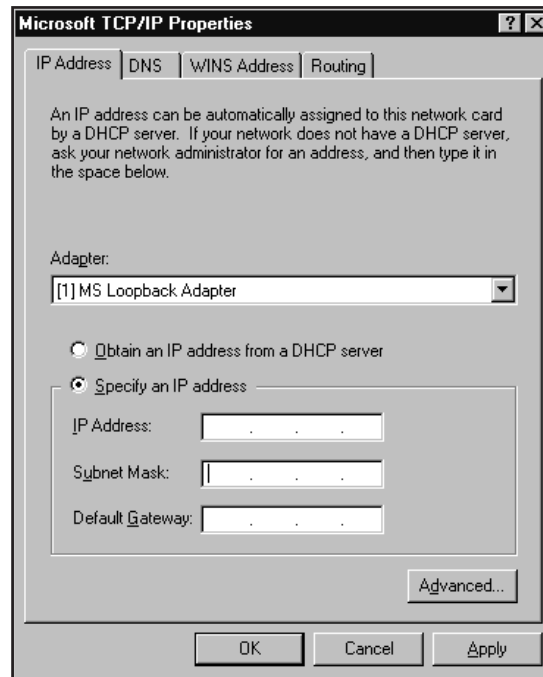

Figure 200 TCP/IP Properties Screen
2. Click the **Close** button to exit the Network setting dialog. You'll be prompted (via the dialog in Figure 200) to set up the TCP/IP properties.